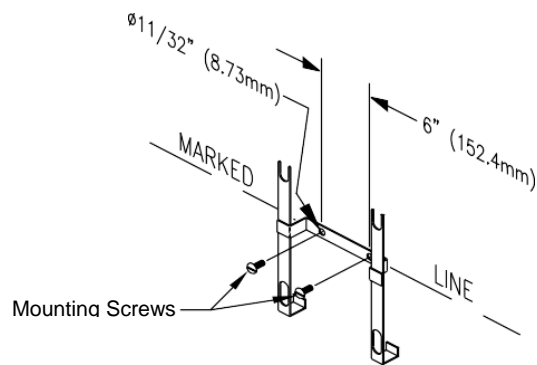
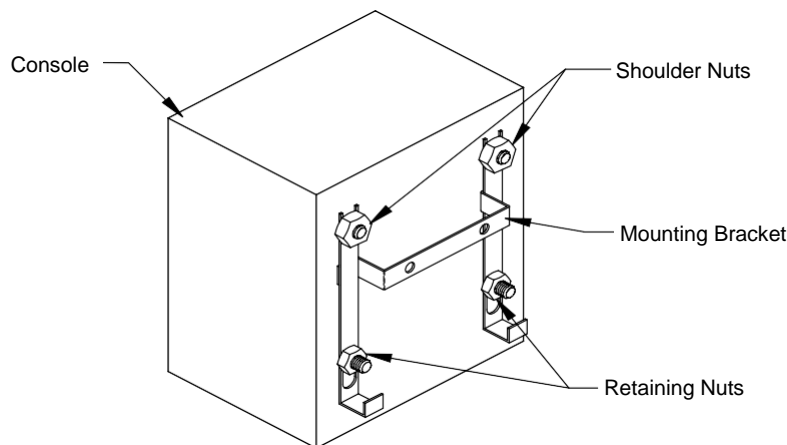

Figure 4 - Mounting Bracket
Figure 5 - Console and Mounting Bracket
3. Remove the mounting bracket from the rear of the AutoSwitch Console by removing the retaining nuts at the bottom of the mounting bracket (Figure 5). Place the upper edge of the bracket cross-member on the horizontal line so that it is centered with the vertical line. Holding the bracket with the slotted extensions away from the wall, mark the location of the two mounting bolts (Figure 4)
4. Using appropriate hardware based on wall construction, anchor the mounting bracket to the wall (Figure 4).